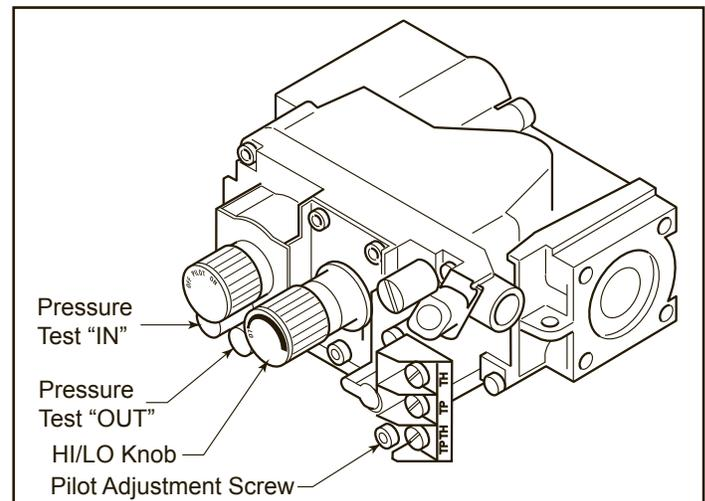

Figure 32 - Gas Pressure Check at Gas Valve
5. To check gas pressures at valve, turn captured screw counter clockwise 2 or 3 turns and then place tubing to pressure gauge over test point. Turn unit to high. Figure 32. After taking pressure reading, be sure and turn captured screw clockwise firmly to reseal. Do not over torque. Check test points for gas leaks.